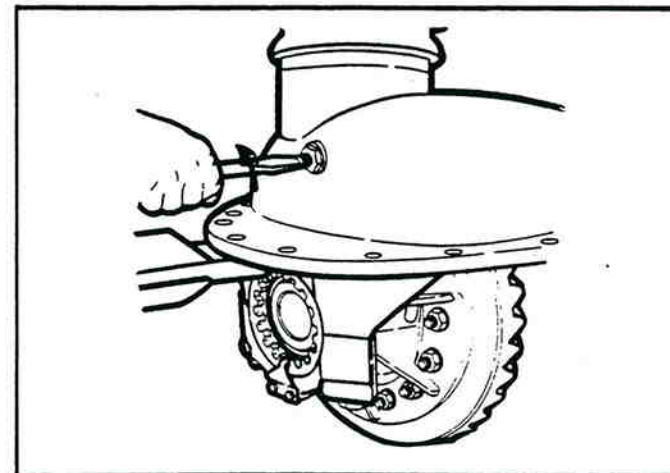

Figure 2-11. Removing Thrust Screw And Jam Nut.
2. Remove the thrust screw and jam nut from the differential carrier (Figure 2-11).